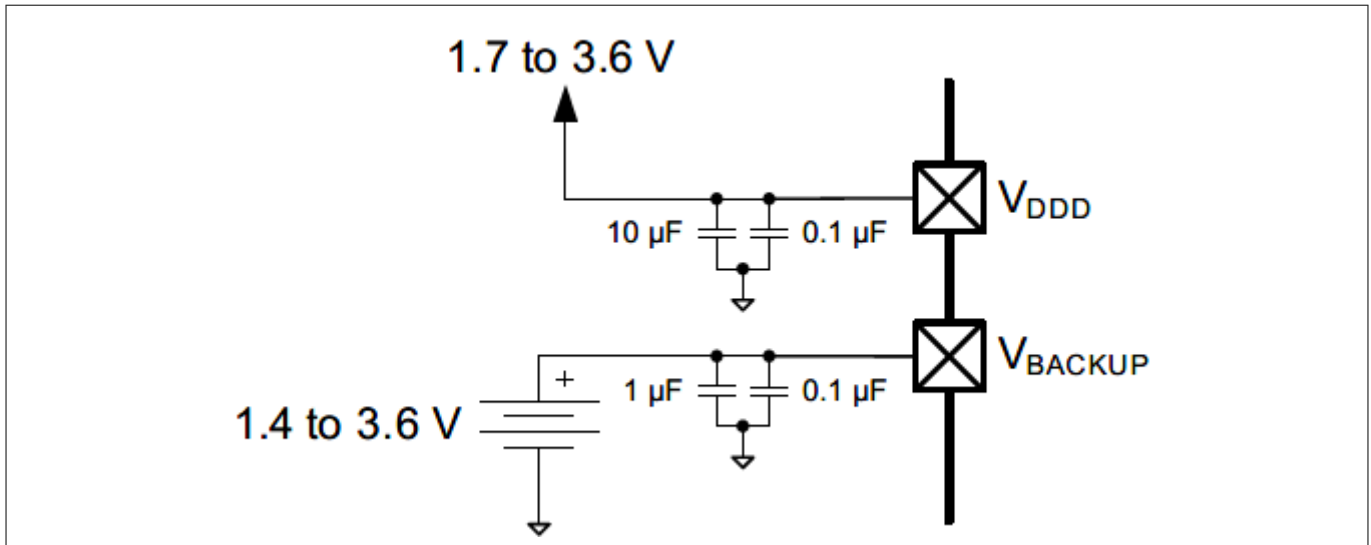

Figure 15 Separate Battery connection to V_{BACKUP}
- V_{BACKUP} : the supply for the backup domain, which includes the 32-kHz WCO and the RTC. It can be a separate supply as low as 1.4 V, for battery or supercapacitor backup, as Figure 15 shows. otherwise it is connected to V_{DDD} . It powers I/O port 0.